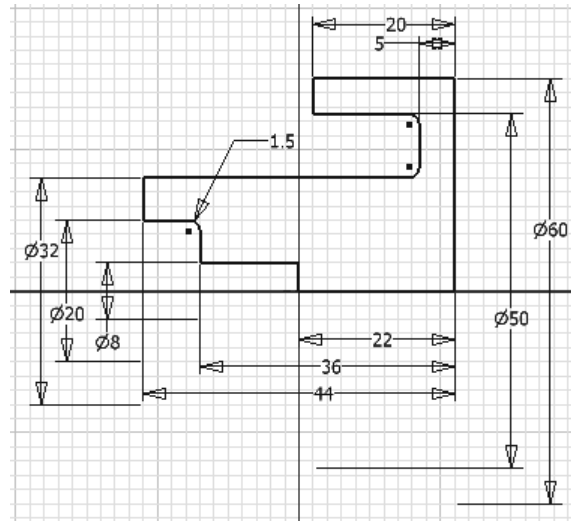

Figure 3-52 Fully dimensioned sketch after adding fillets
2. Similarly, select lines 5 and 6 as well as lines 4 and 5 to add fillets between these lines. Exit the **2D Fillet** dialog box. The final sketch after adding fillets is shown in Figure 3-52.